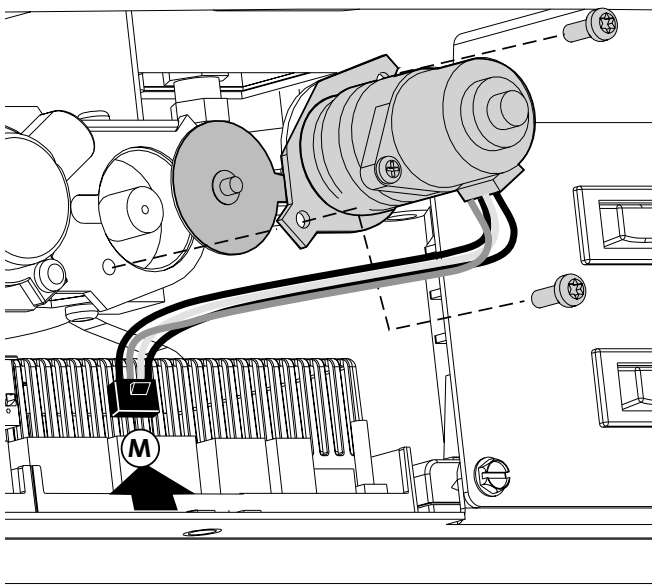

Figure 41. Flame Control Motor installation.
1. Using a Torx T-20 screwdriver, remove the two screws from the front of the manual regulator and remove those components as shown in fig. 41.
3. Connect the wire harness to terminal (M) on the front side of the IFC board, fig. 41.